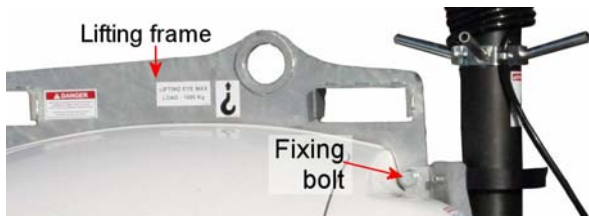
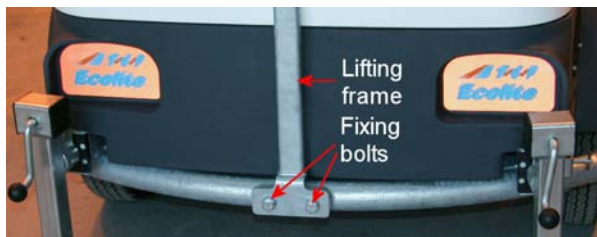

Fig 5-3 Lifting frame front fixing
Fig 5-4 Lifting frame rear fixing
1. Release the lifting frame by removing the two bolts at the rear (Fig 5-4) and the single bolt at the front (Fig 5-3)